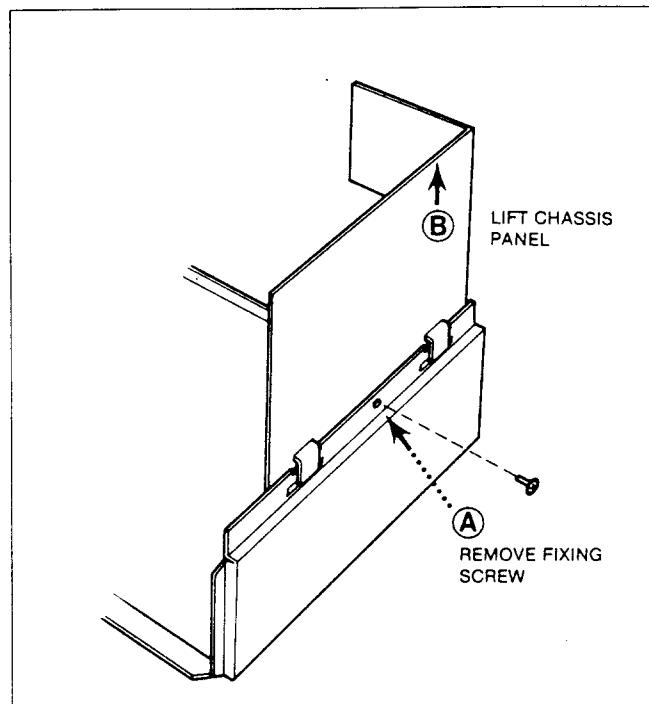

FIG N2 N SERIES FIXED POSITION
#### ***SERVICE ACCESS (Figures N2, N3)***
The side PCBs may be tilted to service Access positions as shown in Figs N2, N3.
2. Lift the panel (B) (Fig N2).